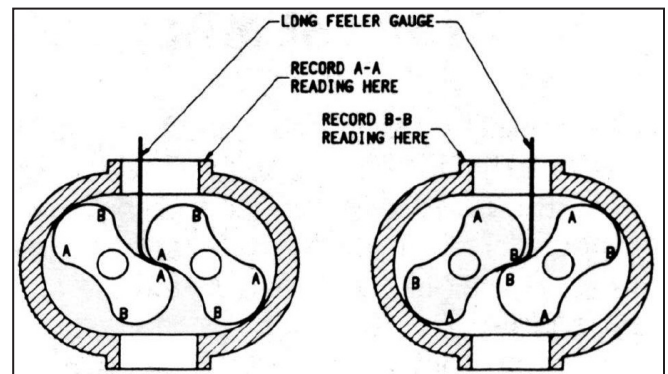

Figure 8 - Checking Rotor Interlobe Clearance
- Using feeler gauges take interlobe readings and record on each side of housing as indicated in Figure 8. By removing or adding shim behind the helical gear, it rotates as it is moved in or out and the driven rotor turns with it, thus changing the clearance between rotor lobes. Changing the shim thickness .006" (.15 mm) will change the rotor lobe clearance .003" (.08 mm) or one-half the amount.
EXAMPLE: Referring to Figure 8, check the clearance a AA (right hand reading) and BB (left hand reading). If AA reading is .009" (.23 mm) and BB reading .003" (.08 mm) by removing .006" (.15 mm) shims, the readings will change one-half the amount removed or .003" (.08 mm) AA should then read .006" (.15 mm) and BB should read .006" (.15 mm). The final reading should be within .002" (.05 mm) of each other. To determine the amount of shim to add or remove, subtract the small figure from the larger. If the right side reading is higher than the left side, remove shim. If the right side reading is lower, add shim.